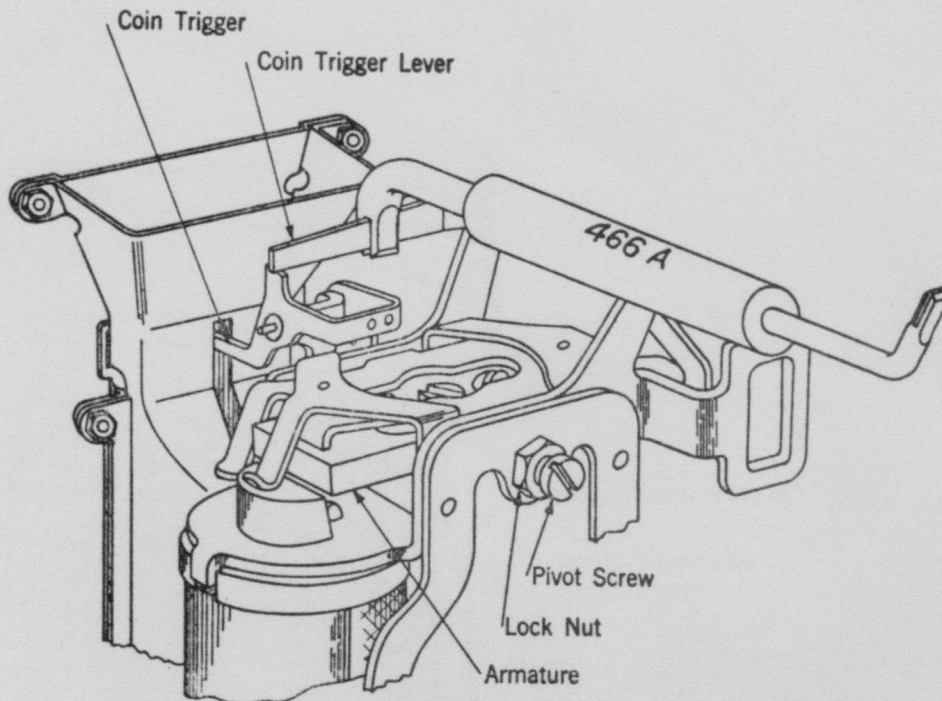

Fig. 17.
- (a) Place the No. 466A tool on the arm of the coin trigger lever as shown on Fig. 17 and adjust lever so that requirement is met.